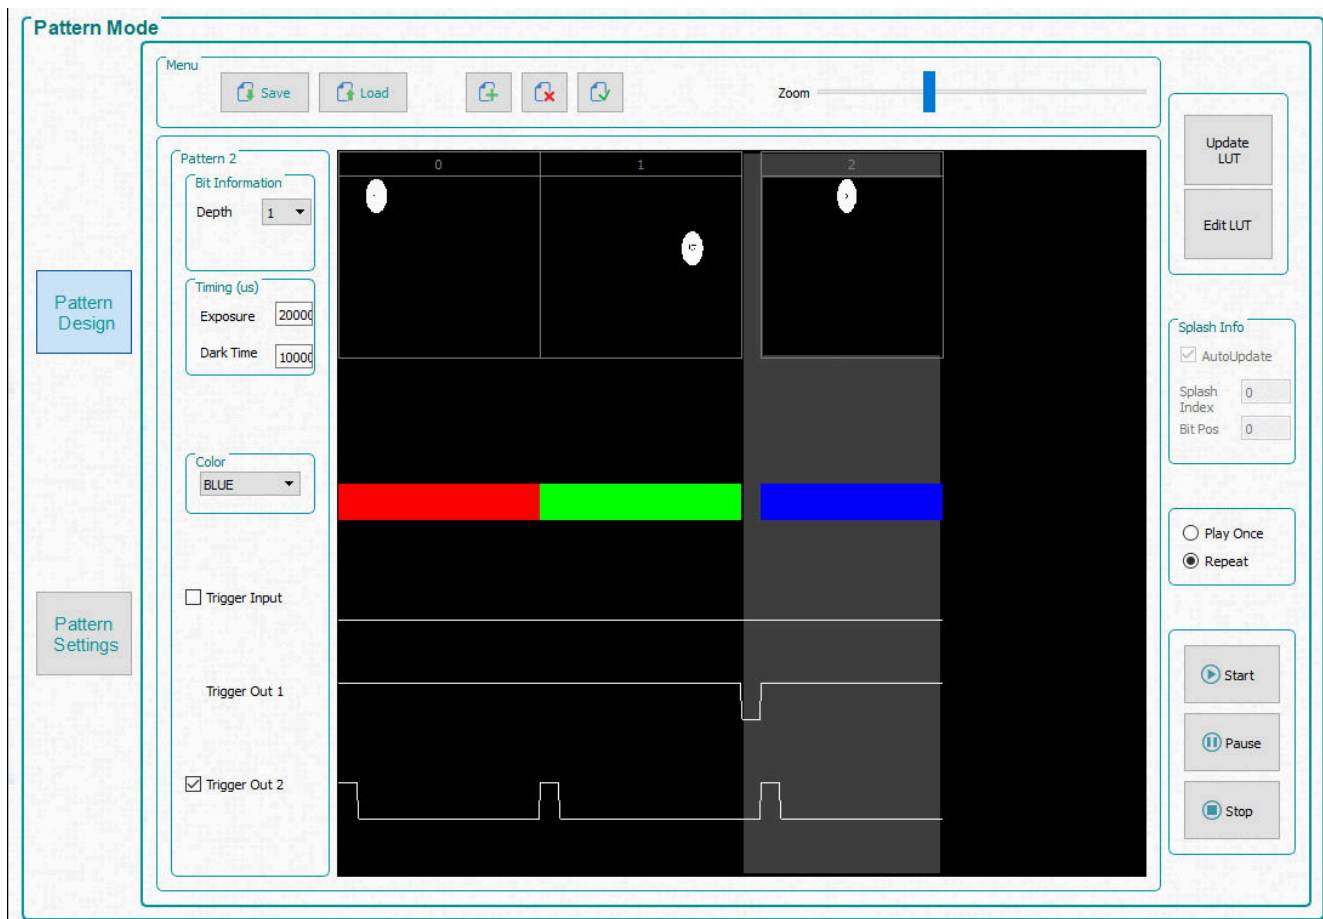

Figure 2-2. Simple Three Pattern Sequence
For the next three steps, a selected pattern is indicated by a lighter gray selection area. See Figure 2-2 which shows the third pattern (pattern 2) selected.
5. Select the third pattern and choose a bit depth of 1. Set exposure to 200000µs, dark time to 100000µs, and select **Blue** for the color. Figure 2-2 shows the pattern sequence.